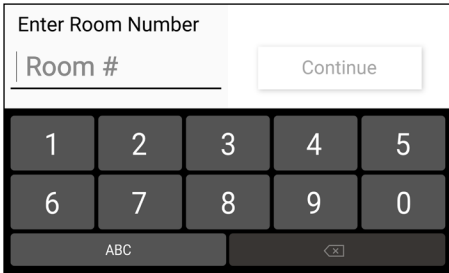

Figure 4. Patient room number entry screen
4. Enter the patient's room number and press continue. (Fig. 4)